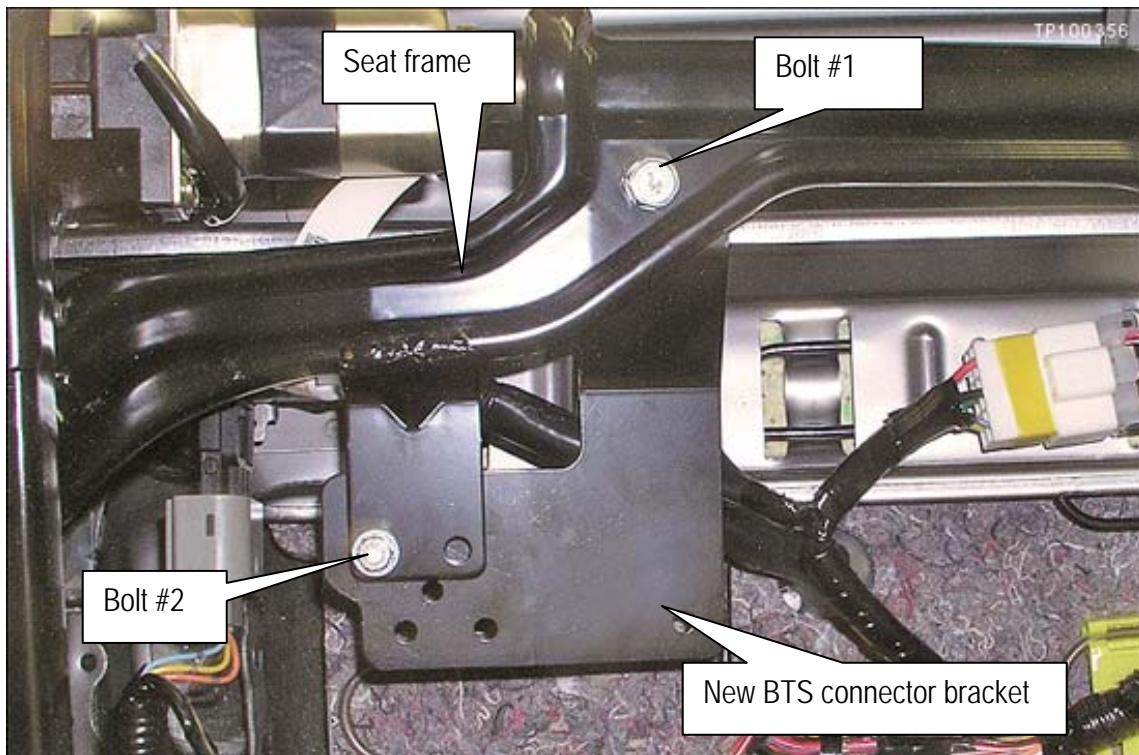

Figure 7a
8. Install the new BTS connector bracket to the seat frame as shown in Figure 7a and torque the bolts: